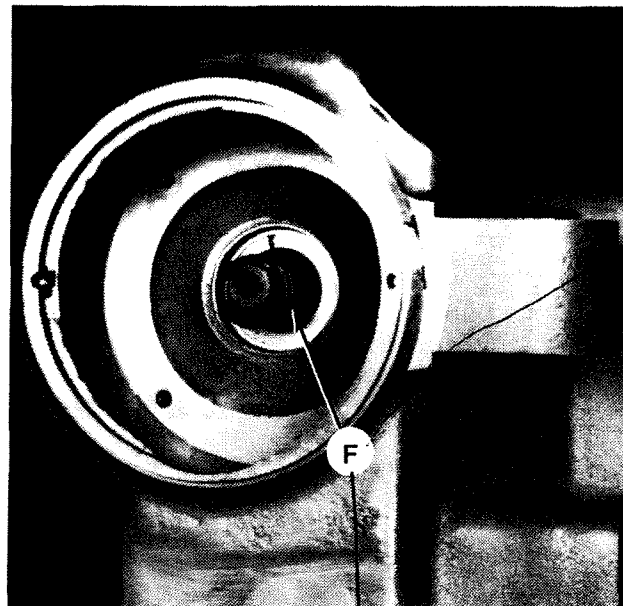

Figure 3.32 - Spring for Motor Brake
9. Remove spring "F", Figure 3.32 .
8. Install spring "F", Figure 3.32 .